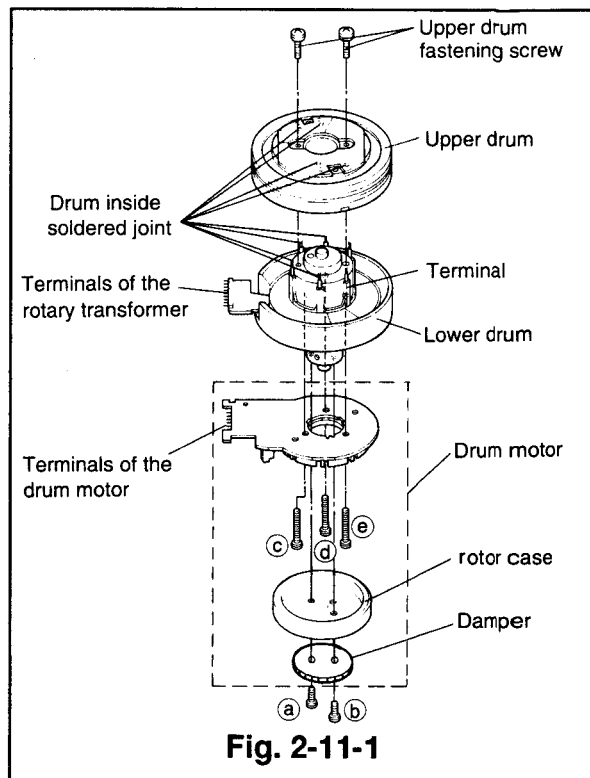

Fig. 2-11-1
- ① Remove the drum assembly. (Refer to Para. 2-10 for the removal method.)
- ② Unsolder the terminals of each head on the upper drum.
- ③ Remove the screws holding the upper drum shown in Fig. 2-11-1.
- ④ Remove the upper drum slowly and carefully.
- ⑤ Remove the screws(Ⓐ and Ⓑ) shown in Fig. 2-11-1 to remove the rotor case and damper. Remove the screws(Ⓒ,Ⓓ and Ⓔ) to remove the drum motor.